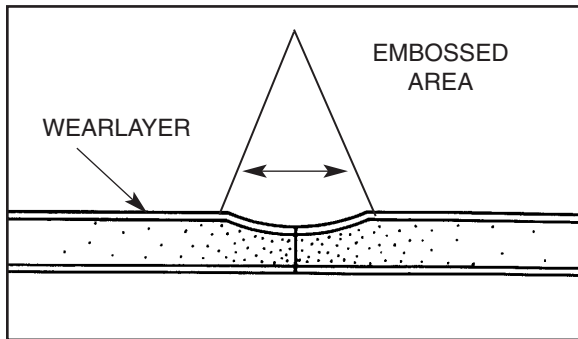

Fig. 12. Cut seam in middle of embossed mortar or grout joint.
- When seaming designs with embossed mortar or grout lines wider than $5/32''$ (4.0mm), the seam should be cut in the center of the embossed line as in Figure 12.